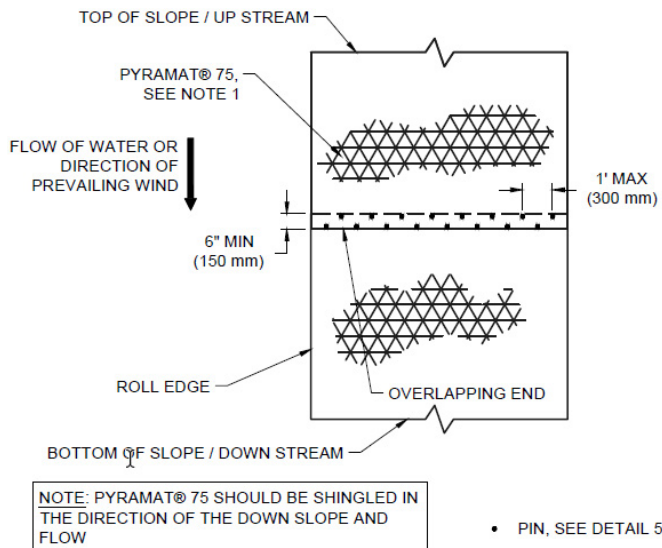

Figure 9: Roll end overlap
- Roll ends shall be overlapped a minimum of 6 in (150 mm) with upstream / upwind panel on top. Secure roll end overlaps with two rows of pins staggered 6 in (150 mm) apart on 12 in (300 mm) centers (Figure 9).